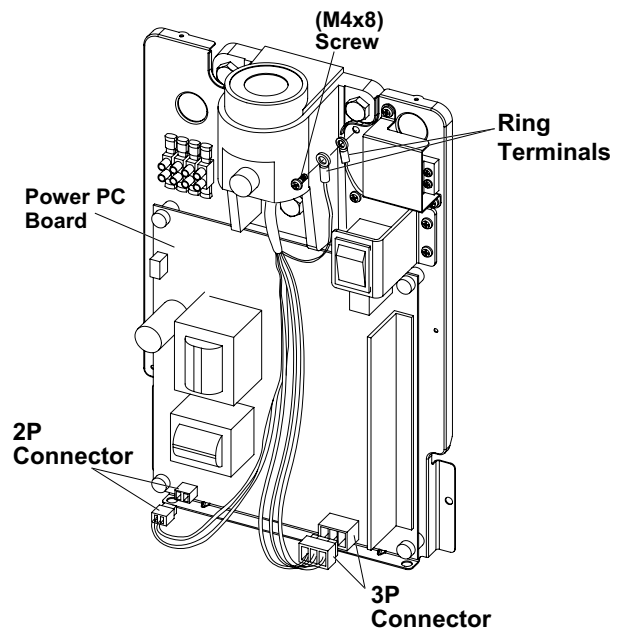

Fig.3-8 Connecting 2P and 3P Connectors on Power PC Board
- Connect 2P and 3P connectors of horizontal arm cable to the respective connectors on power PC Board. (Fig.3-8)
- Connect the 2 wires with ring terminals from the arm cable and 3P terminal block with a M4 screw. (Fig.3-8)